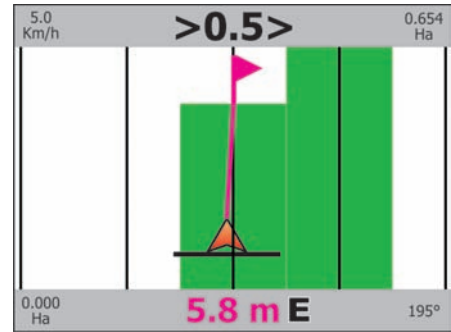

Fig. 238
- When you reach the track with the breaking point, the display shows the distance between your position and the point (**E** Fig. 238).